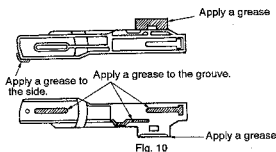

Fig. 10
- Install the cam gear in the position where projection (E) of the cam gear comes to the front of the follow gear installation shaft.
- ① Grease the spring slanting cam. (Fig. 10)